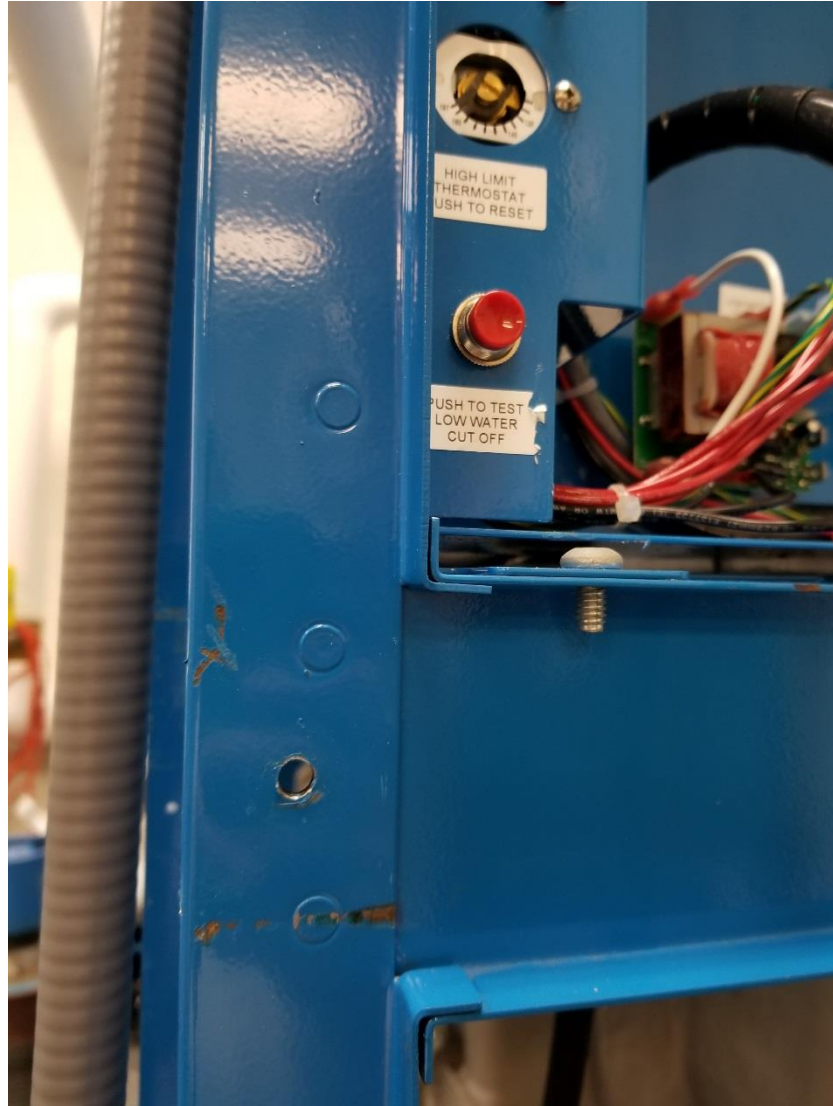

Figure 17
18. Knock/Drill studs out from front top left side of frame as shown in figure 17.